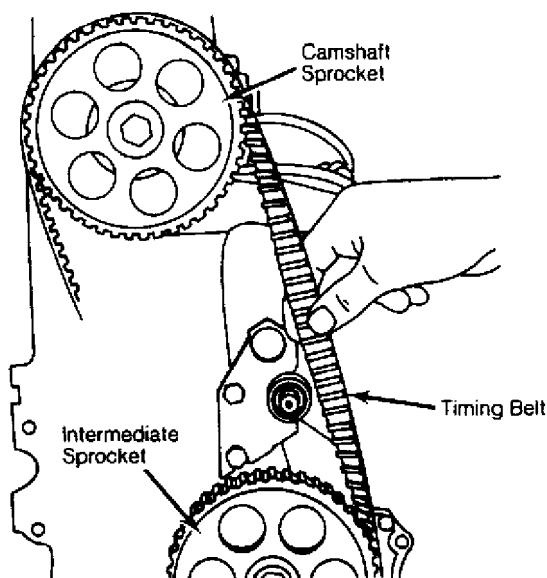

Fig. 9: Checking Timing Belt Tension
3) Rotate tensioner clockwise to tighten belt and install lock nut. Proper deflection is achieved when longest span of belt between sprockets can be twisted 90 degrees. See Fig. 9. By hand, rotate crankshaft 2 turns and check timing mark alignment. To complete installation, reverse removal procedure.